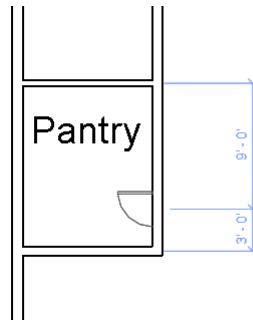

Figure 3-78 Specifying the location of the pantry door
- b. Add doors by invoking the **Door** tool and selecting the type of door from the **Type Selector** drop-down list, refer to Figures 3-78 through 3-81.
6. Move the cursor close to the interior wall of the pantry area to display the door symbol, as shown in Figure 3-78. Notice that as you move the cursor, the side of the door is changed. Click on the interior wall; the door is created at the specified location along with a tag on it.